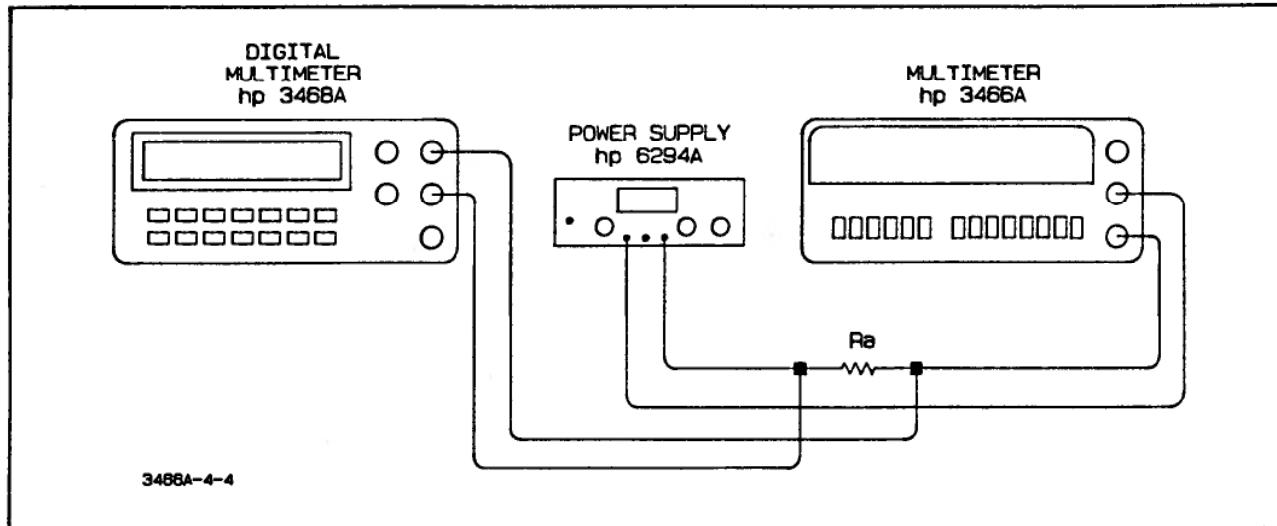

Figure 4-4. DC Ammeter Accuracy Test
- Connect the 3466A to the power supply and Digital Multimeter as shown in Figure 4-4.
- Connect the 100k ohm $\pm 0.01\%$ resistor in the Ra position as shown in Figure 4-4.